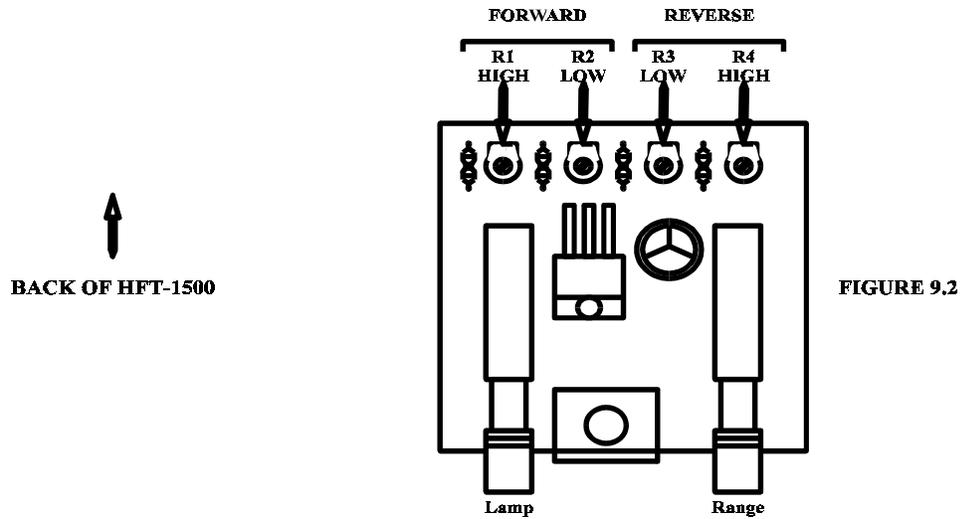

FIGURE 9.2
- Depress the RANGE button to select the 3000 Watt range and adjust R4 (in figure 9.2) until the reflected power reads 100 W.